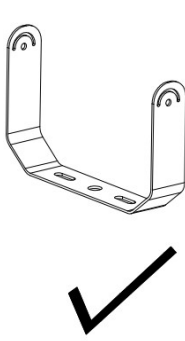
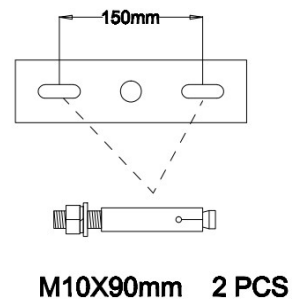

FIG.25
FIG.27
- 1) Select U shape bracket and M10*90mm expansion screws, drill two holes on the wall or ground, 150mm distance.(See FIG.25 to FIG 27)